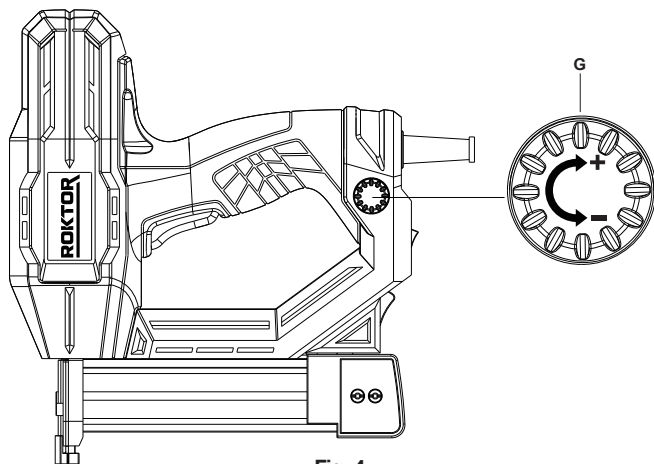

Fig. 4
3. IMPACT CONTROL (See Fig. 4)